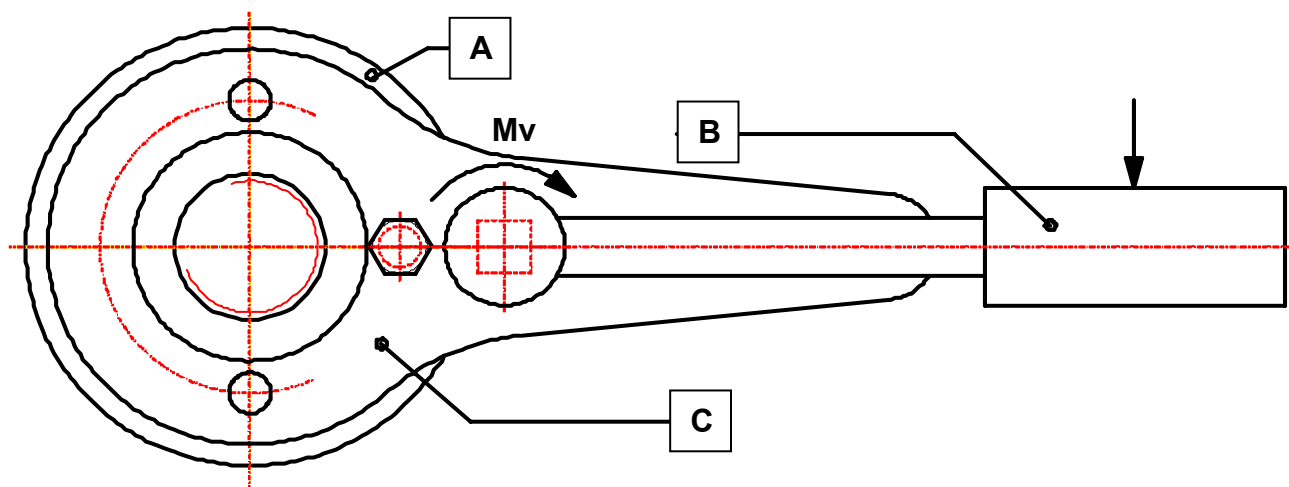

Figure 1
The piston (A) is secured with a torque wrench (B) applied to the square/hexagon head of the assembly wrench (C). The position of the torque wrench must be carefully noted (see figure 1).